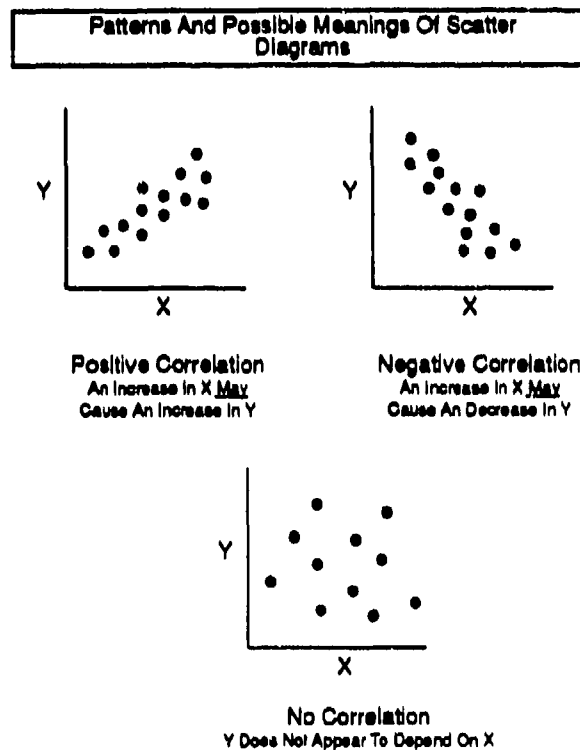

Figure A-16: Scatter Diagrams
- Plot the data. As you plot each point circle repeated points. Look for patterns in the data, Figure A-16 will help you interpret patterns in the plot.